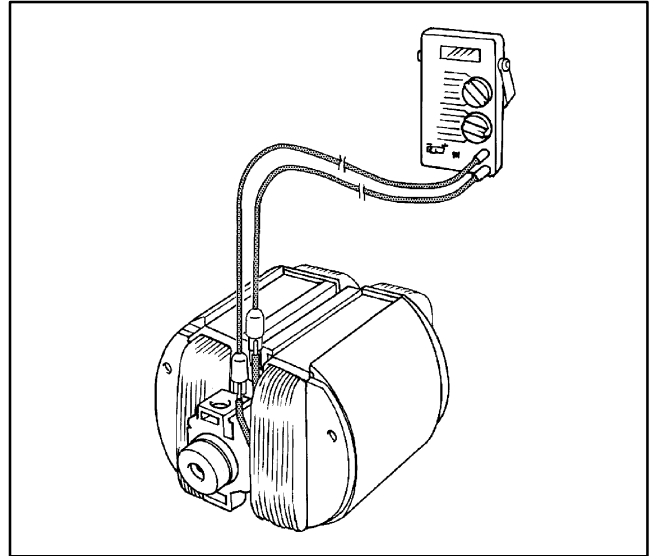
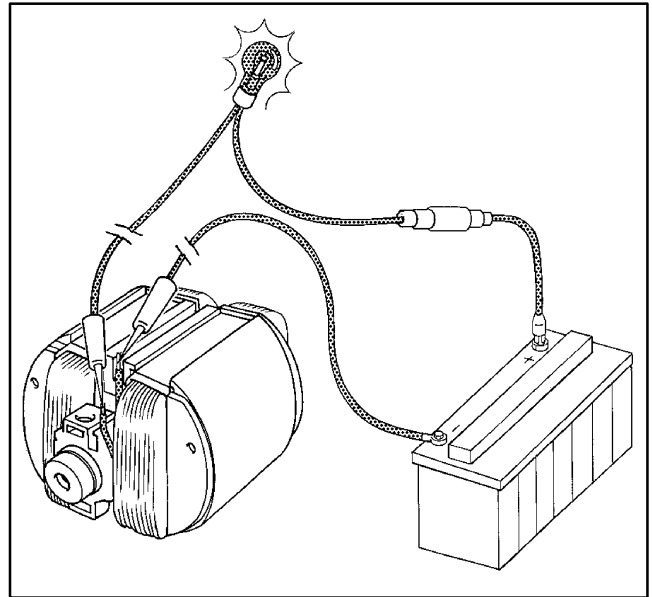

Figure 9-3 Rotor Continuity Test with Ohmmeter
Figure 9-4 Rotor Continuity Test with AC Test Lamp
1. Using an Ohmmeter test, check if the rotor winding is opened. See Figure 9-3. If an accurate ohmmeter is not available, check the circuit's continuity using a 12 VDC battery and a suitable lamp. See Figure 9-4. Replace the rotor if it is grounded, has an opened or short circuit.